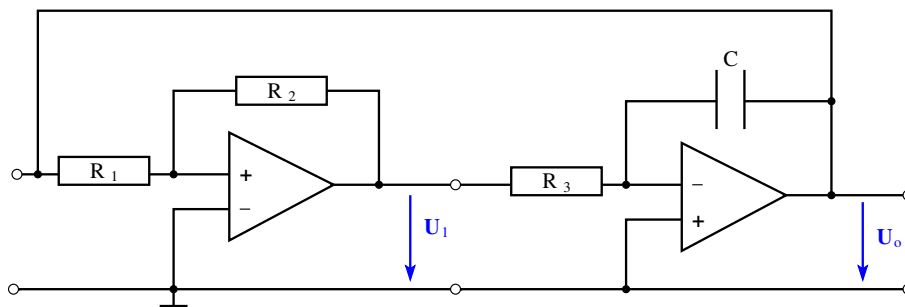

Figure 7: Circuit of an Generator
- What is the **theoretical value of the oscillation frequency** generated in the circuit in Fig. 7?
Set up the circuit of a generator shown in Figure 7. Use the following components for the